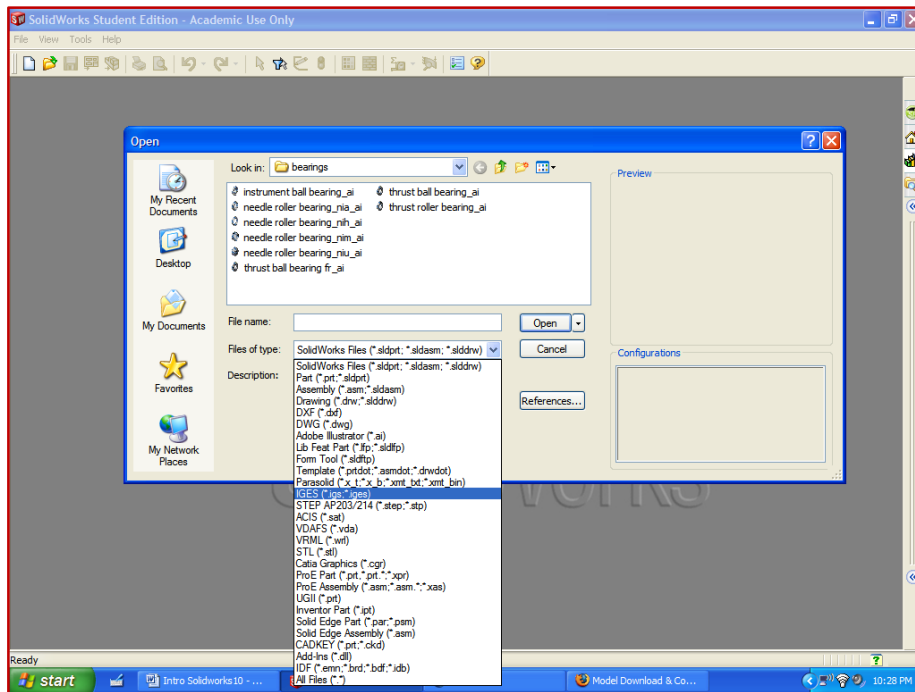

Figure 9.3 – File Format Options
Step 78: To import or export models using one of these neutral files, select the appropriate File Type when opening or saving your model as shown in Figure 9.3.